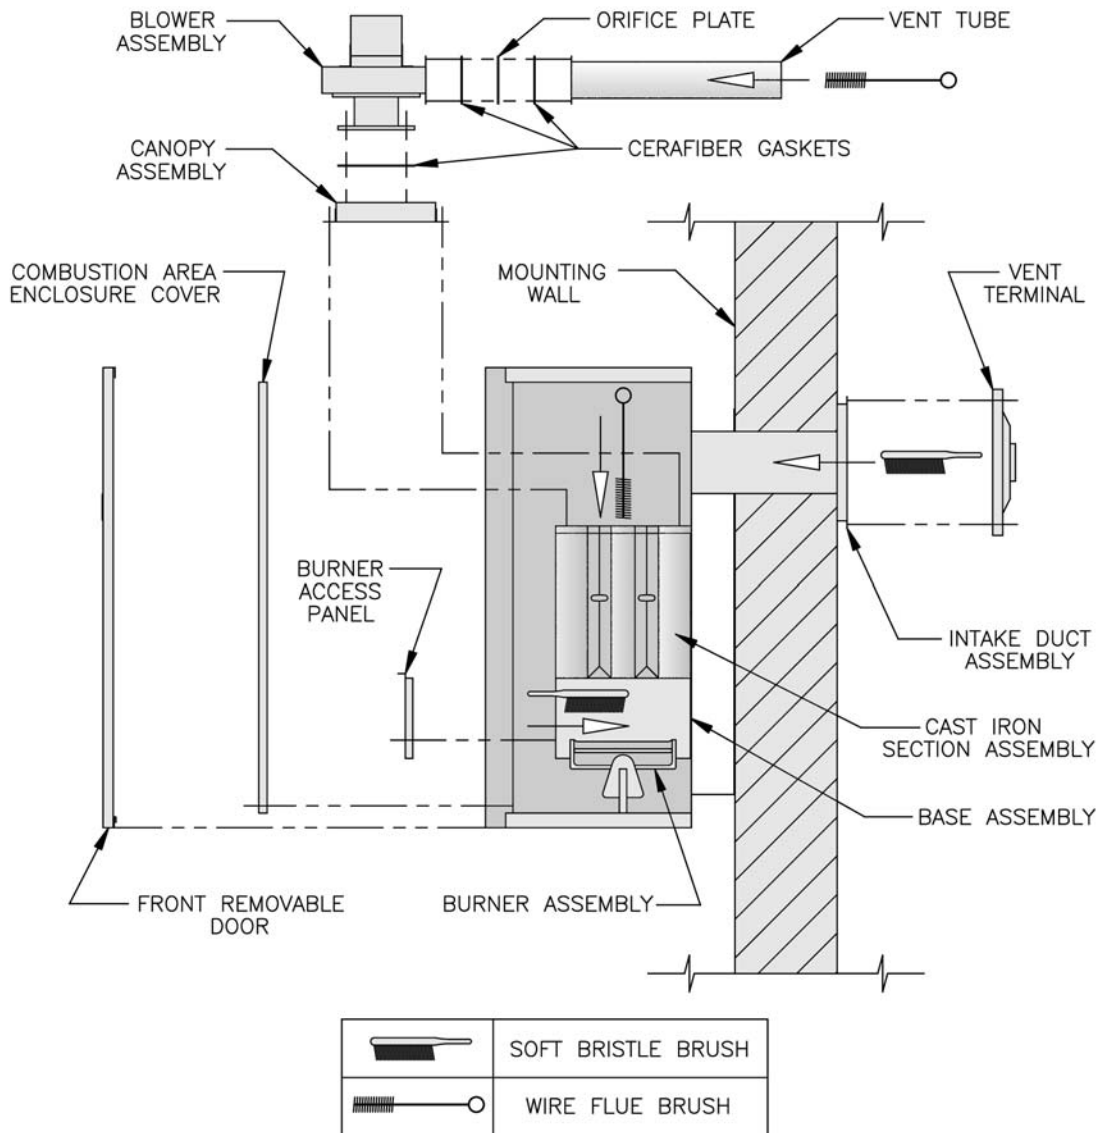

Figure 16
- e. Remove vent cap and clean accumulations of soot and dirt with wire brush and vacuum. See Figure 16. Remove any obstructions. Replace all deteriorated parts.
- 3 CLEANING BOILER FLUES (See Figure 16).
brush flueways thoroughly from top of boilers as illustrated in Figure 16. Replace canopy and seal.
- d. Brush top of burner with a soft bristle brush and vacuum burner, see Figure 16. Check orifice to see that drilled passageway is free of lint and dirt.